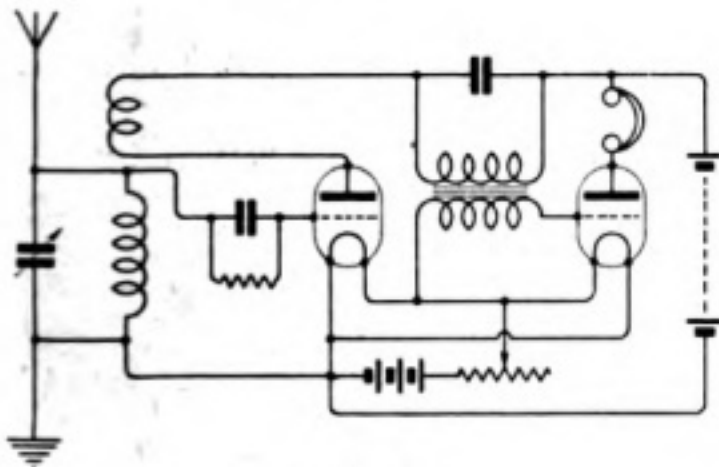

Fig. 5.
(1) Condenser is best as shown in your diagram. (2) Yes. (3) See the amended diagram, Fig. 5. (4) About 35s. to 50s.